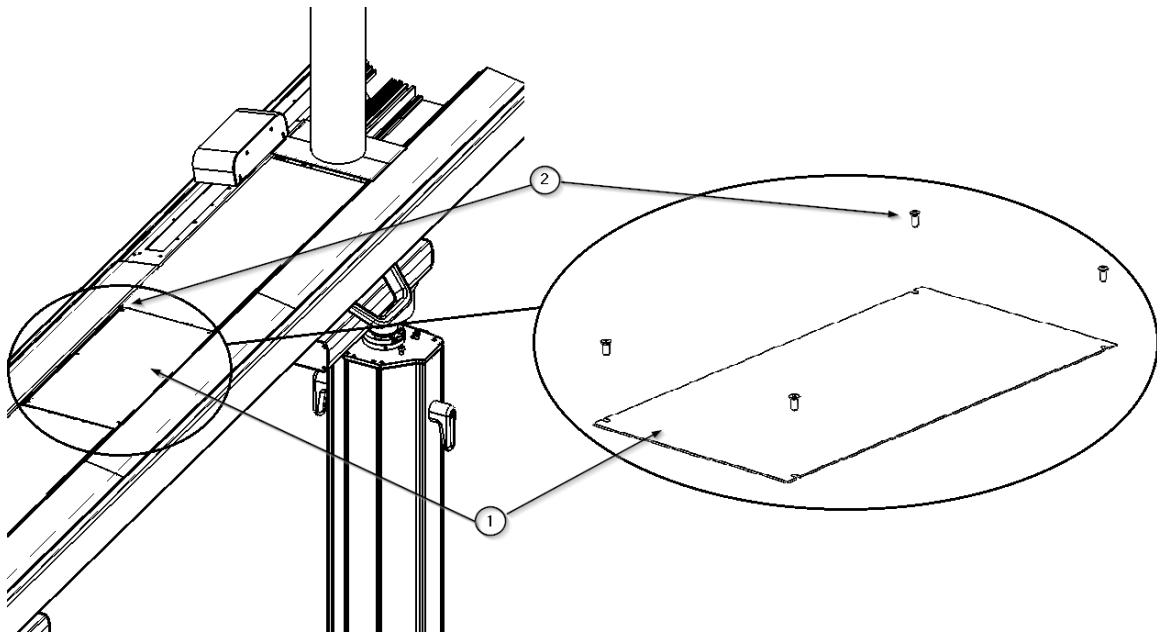

Fig. 7 Removing the polycarbonate diffuser
- Replace the polycarbonate cover ① and screw in the 4 M6 x 16 countersunk screws ② DIN 935 as shown in figure 7.